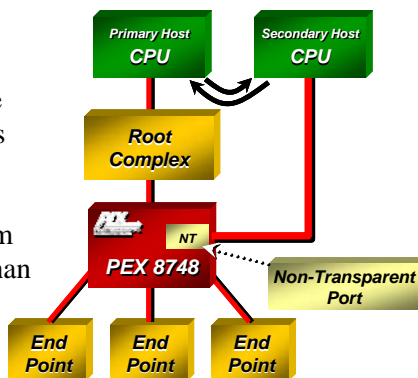

Figure 3. Non-Transparent Port
In Single-Host mode, the PEX 8748 supports a **Non-Transparent (NT) Port**, which enables the implementation of **dual-host systems** for redundancy and host failover capability. The NT port allows systems to isolate host memory domains by presenting the processor subsystem as an endpoint rather than another memory system. Base address registers are used to translate addresses; doorbell registers are used to send interrupts between the address domains; and scratchpad registers (accessible by both CPUs) allow inter-processor communication (see Figure 3).